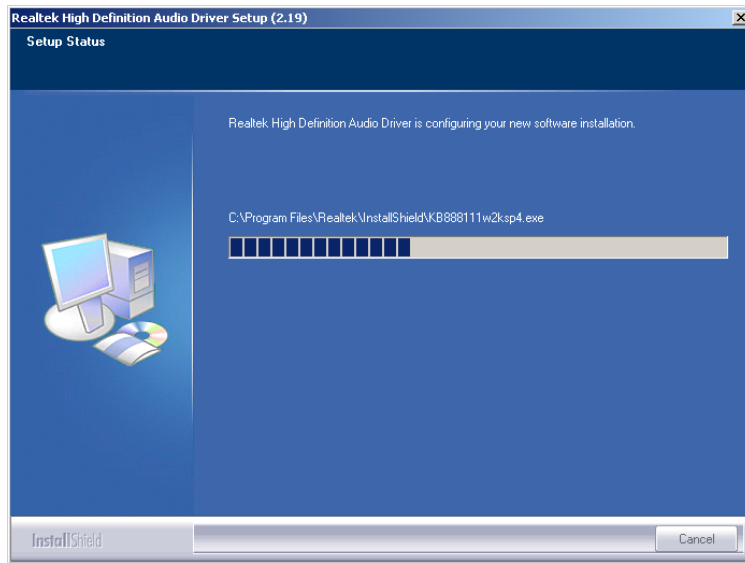

Figure 7-49: Audio Driver Software Configuration
Step 11: InstallShield starts to install the new software as shown in Figure 7-49.